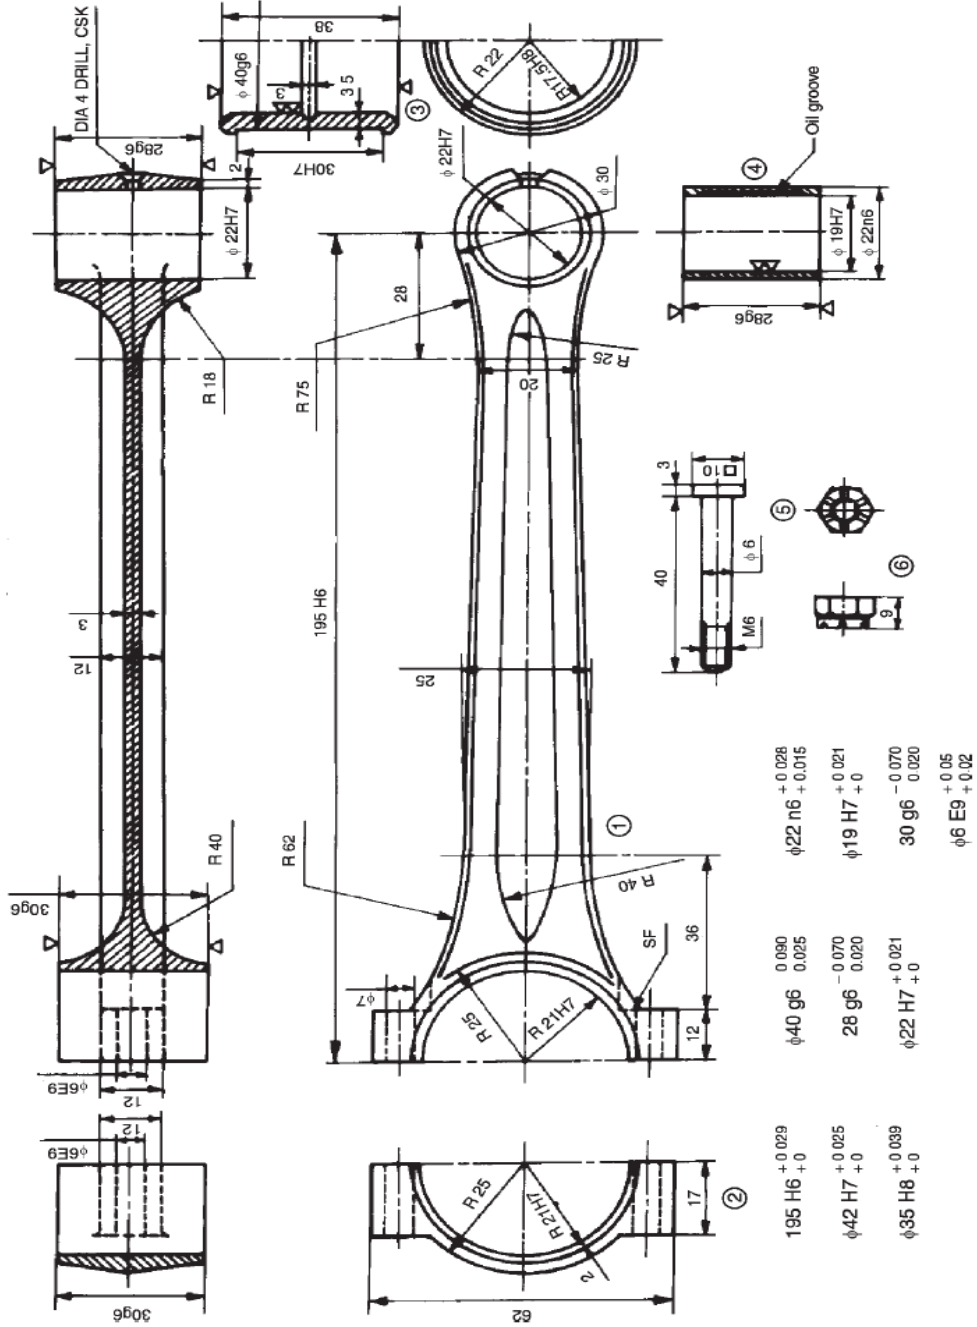

Fig. 1 Details of petrol engine connecting rod
4. Assemble the parts of the petrol engine connecting rod, shown in Fig. 1 and draw the following views: (50M)